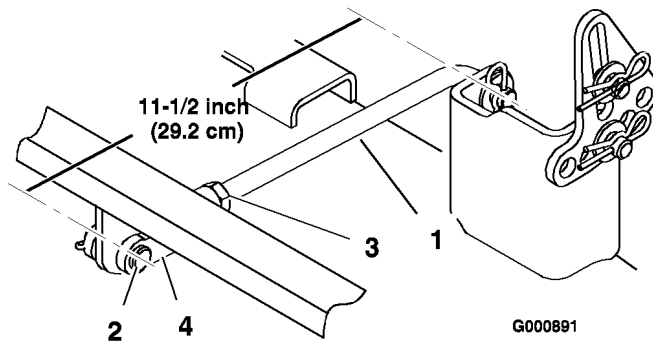
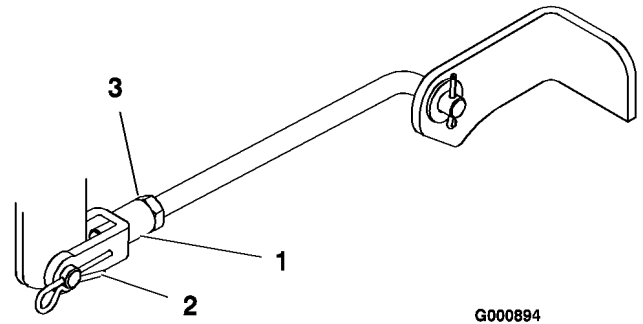

Figure 44
Figure 46
6. Measure the length of the rear trunion rod (Figure 44). If the rod length is not 11-1/2 inch (29.2 cm), remove the clevis pin and cotter pin from the end of the rod (Figure 44), loosen the jam nut, and turn the yoke until the 11-1/2 inch (29.3 cm) dimension is obtained.
- To adjust the front-to-rear blade slope, remove the hairpin cotter and clevis pin from the front trunion yokes and loosen the jam nuts (Figure 46).
- Rotate the yokes on the rods to change the adjustment (Figure 46). To raise the front of the mower, tighten the yokes (shorten the rods). To lower the front of the mower, loosen the yokes (lengthen the rods).
- When the front-to-rear blade slope is correct, tighten the jam nuts (Figure 44 and Figure 46).